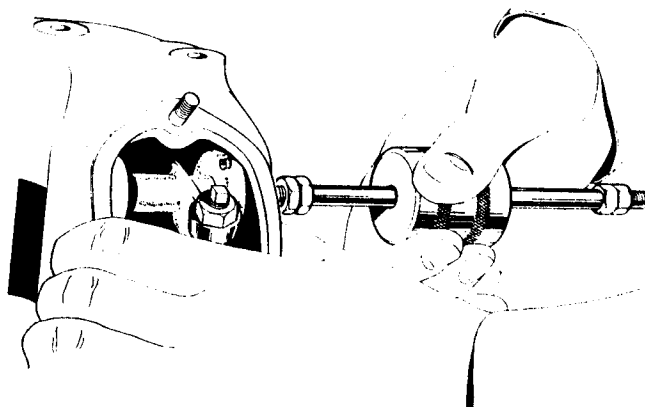

Fig. C5 Extracting rocker spindles using slide hammer 064298
- 3 Use service tool 064298 to extract the rocker spindles as shown in *Fig. C5*. Heat the cylinder head gently to ease removal and avoid damage to head or spindles. Ensure the shaft of the slide hammer is threaded well into the rocker spindles then slide the weight back against the nut sharply several times and the spindle will be drawn out.